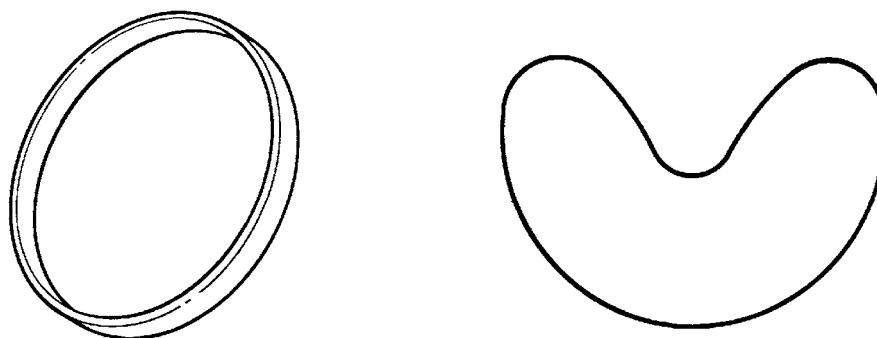

Fig 5.5 PTFE seal installation
- 4.3.1 Fit the O-ring of the large double delta seal (1) into the groove in the main body (38). Carefully distant the PTFE outer part, as shown in Fig 5.5 and position it over the O-ring.